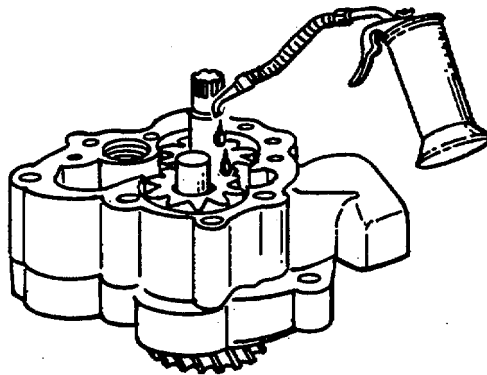

Figure 3-67. Lubricating Pump.
- (2) Note the lube pump gear backlash. (FIGURE 3-67)
- (3) Mark the lube pump gear and the idler gear if the limits are exceeded.
- a. Lubricate pump with clean engine oil. (FIGURE 3-67)